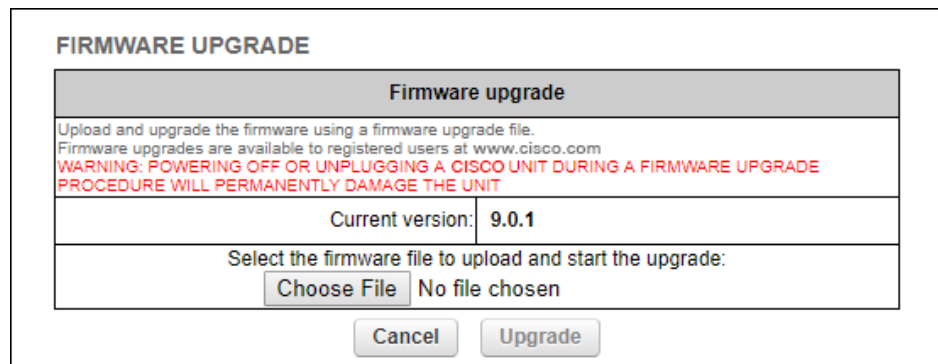

Figure 48. Configurator GUI (typical FIRMWARE UPGRADE dialog)
- The **FIRMWARE UPGRADE** dialog will be shown (Figure 48 (page 96)).